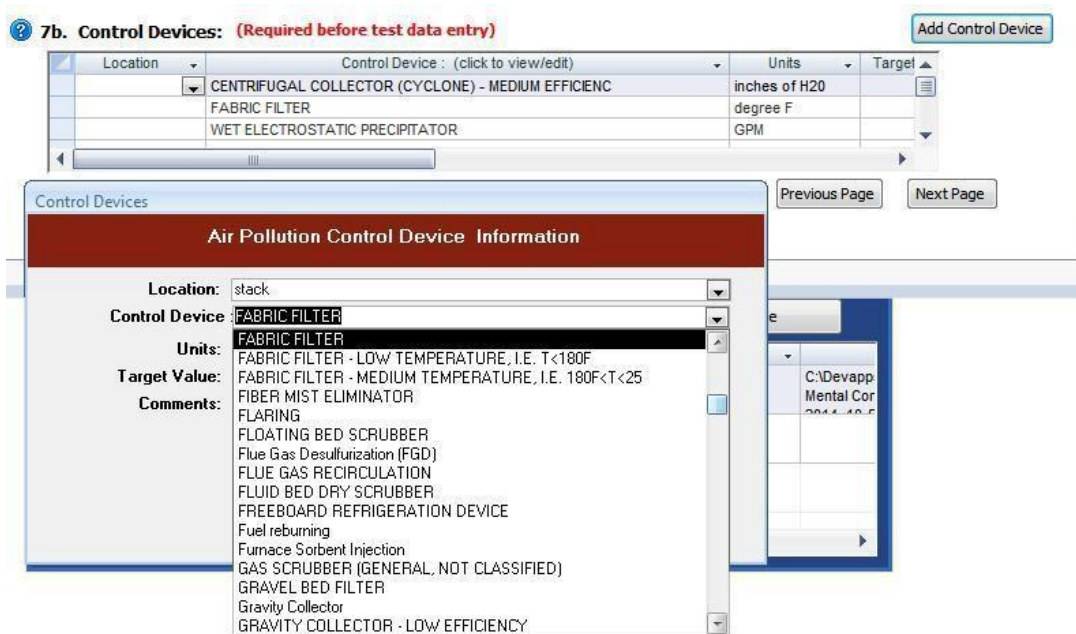

Figure 27 - Control Devices
You should also insure that all parameters required to document the performance of each control device are listed in item 7a. You should identify the most critical APCD performance monitoring parameter that will be used for continuous compliance demonstration, describe the parameter in the comments field and provide the units of measure for that parameter. An existing entry can be edited by clicking in any column except the Control Device column. As described earlier, clicking in the “**Control Device**” column will open the “**Air Pollution Control Device Information**” screen – Figure 27.